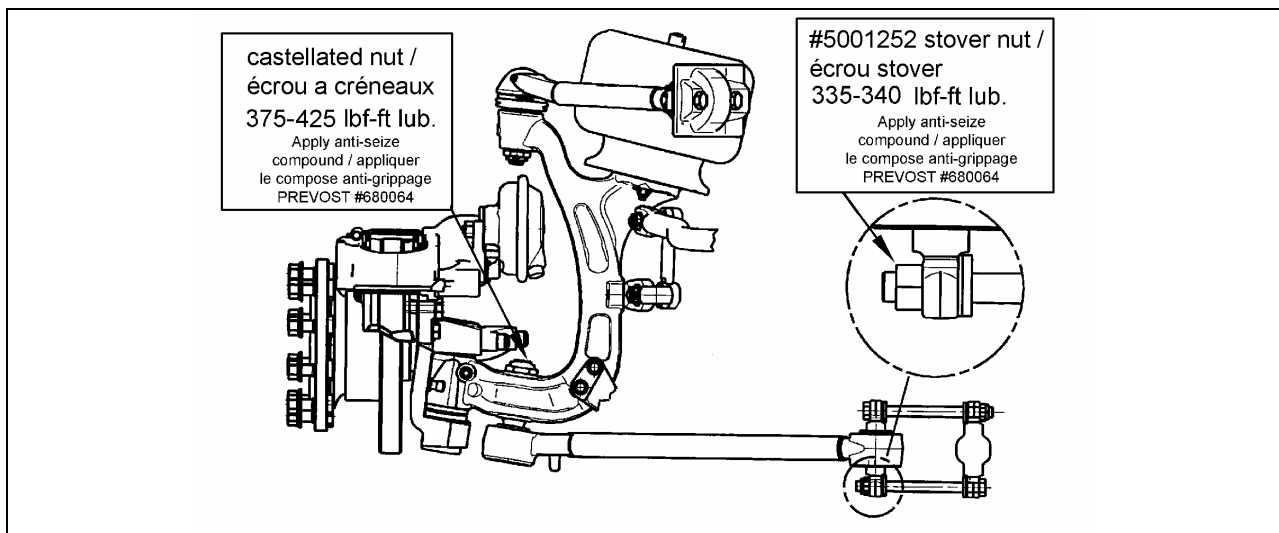

FIGURE 4: TIGHTENING TORQUE SPECIFICATIONS
6. Reinstall the A-arm as per torque specifications of figure 4. Tighten the castellated nut as specified then turn just enough to be able to insert the cotter pin. Use a new cotter pin #2502106. Use new stover nuts #5001252 and torque as specified. Apply anti-seize compound #680064 on threads.